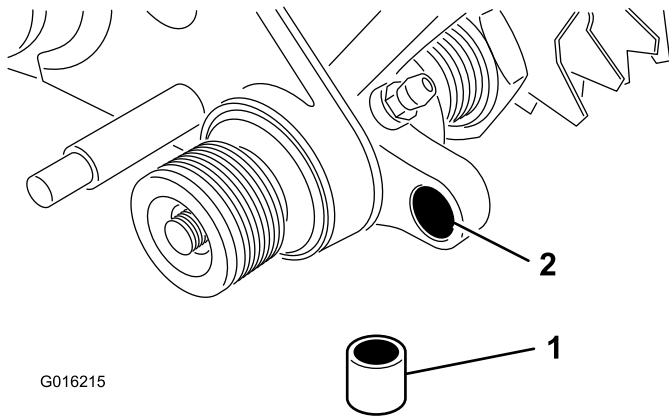

Figure 11
26. Insert a bushing into the hole in the groomer drive assembly (Figure 11).